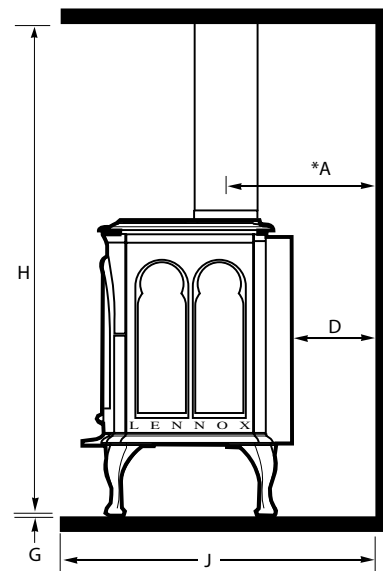

Figure 2A
- As determined through the safety certification of this unit, a minimum clearance to combustible materials must be maintained around specific areas of the gas appliance. (See **Table 5 and Figures 2A, 2B and 2C**).